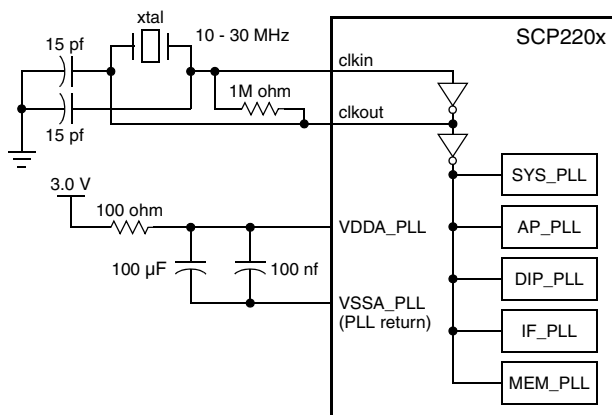

Figure 4. Crystal Connected to SCP220x
* See Figure 4 for VSSA_PLL connectivity